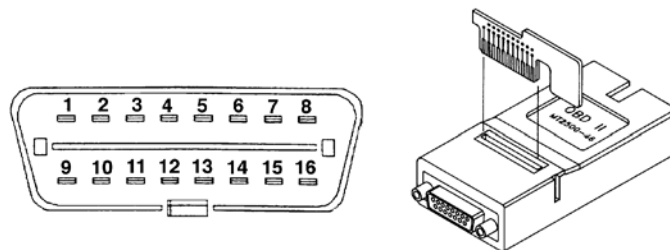

Figure 12-1 16-pin connector and OBD-II adapter with Personality Key™ device
- Use the OBD-II adapter with the specified Personality Key™ device (Figure 12-1).